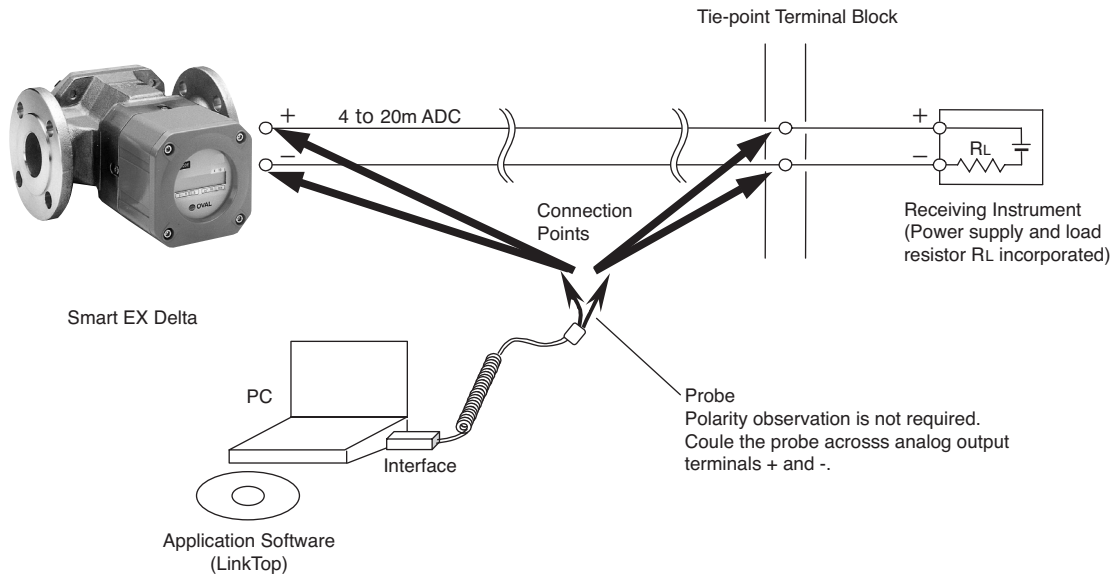

Fig.2
Equipment set-up with associated equipment and devices are shown in Fig. 2.
➡ NOTE: In Fig. 2, the customer is to supply the PC that meets the following requirements:
- ① Hook up the flowmeter transmitter, PC interface adapter, and "LinkTop" preinstalled PC as shown in Fig. 2.
- ② To get the LinkTop up and running, click from "Start" at lower left of the PC screen and click "LinkTop for ULTRA OVAL (E)" from "Program".
- ③ Click "Port setting (I) Ctrl + I" in "File (F)" at the top-level menu of screen.